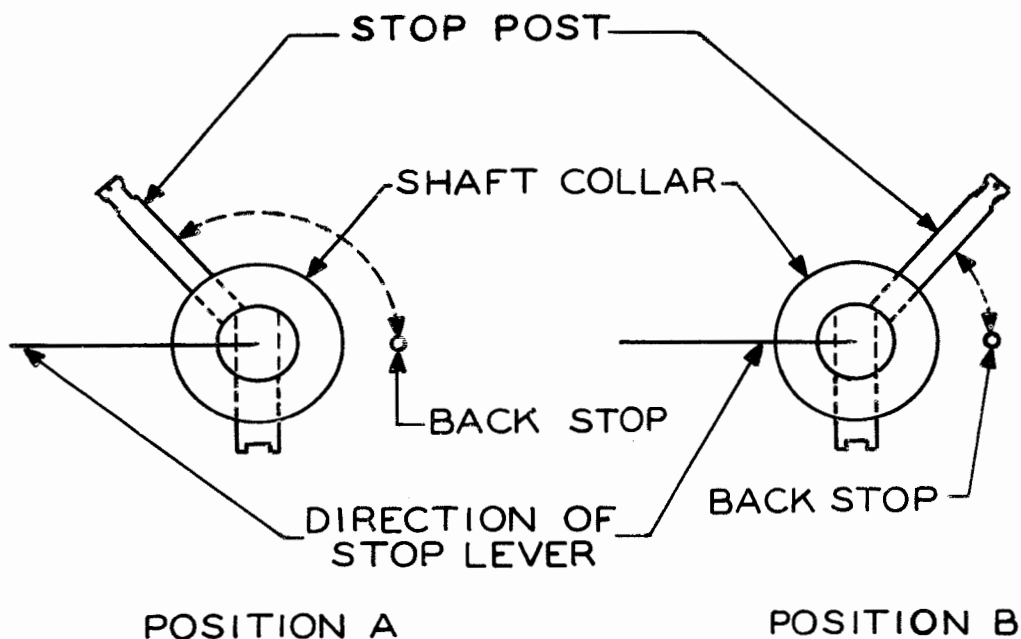
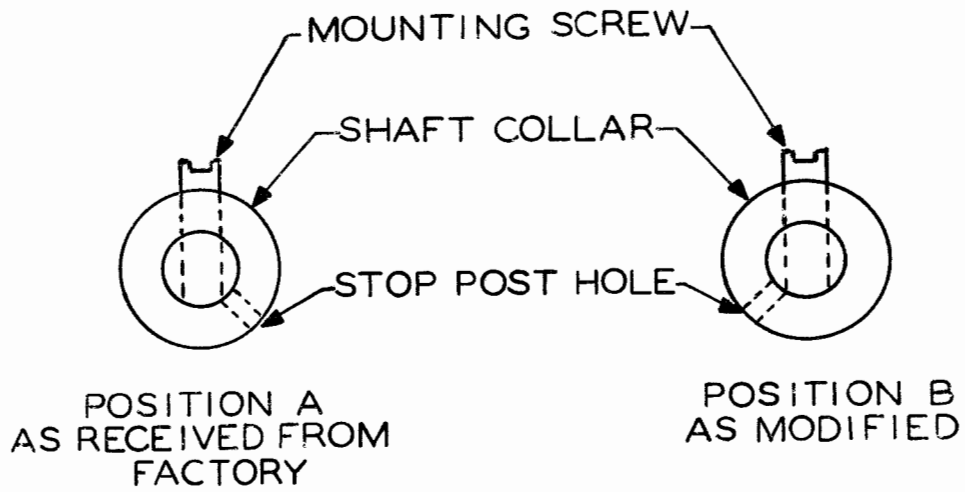

Figure 34
Figure 35
6.09 Range of Movement: The tight-tape stop mechanism is normally assembled so that the tight-tape stoplever can be swung up, past the vertical, until it stands slanting toward the motor, held there by the stop post. In this position the mechanism is disabled and the stop contacts remain permanently open. For some applications, particularly in 81-type switching system operation, it is desirable to prevent this from happening and to make sure that the tape-stop contacts always remain under control of the tape. This may be accomplished by reversing the position of the tape-stop-shaft collar on the shaft from position A of Figure 34 to position B. With the collar (and the stop post) in position B, the stop lever cannot be lifted more than about 30 degrees above the horizontal. Thus the contact mechanism cannot be disabled.
- (1) Remove the stop post from the collar.
- (2) Rotate the stoplever until the mounting screw in the collar is upward. See position A, Figure 35, which shows the stop collar as it would appear viewed from the stoplever end of the tape-stop shaft.
- (3) Remove the mounting screw and lock washer from the collar.
- (4) Remove the collar from the shaft and remount it so that the mounting screw hole is still upward but now the stop-post hole is (downward) toward the front. See position B, Figure 35.
- (5) Restore the mounting screw and lock washer.
- (6) Rotate the stoplever to its normal position.
- (7) Replace the stop post. (See Figures 34 and 35.)